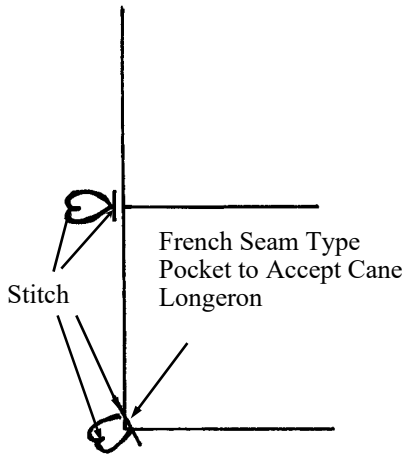

Fig. 3
4. Begin by joining pieces "A" and "B" along the 8 inch side where the $\frac{3}{4}$ excess has been marked and sew along the $\frac{1}{4}$ inch line from the end making sure that the outside parts of the sail are joined together. Then turn over and sew along the other line to form the $\frac{1}{2}$ inch pocket (see Fig 3). Repeat the other end of the "B" piece by joining another "A" piece.